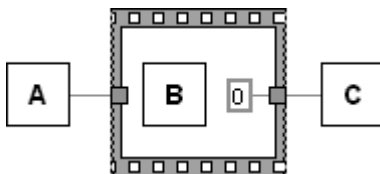

Figure 17.36
- When you need to "force" an execution sequence, you have the option of using a sequence structure, which can be awkward for large diagrams, or an artificial data dependency structure, as shown in Figure 17.36. (And, yes, most experienced LabVIEW programmers use a single frame sequence for this purpose when there isn't a convenient terminal available—because a "sequence" is self-documenting.)